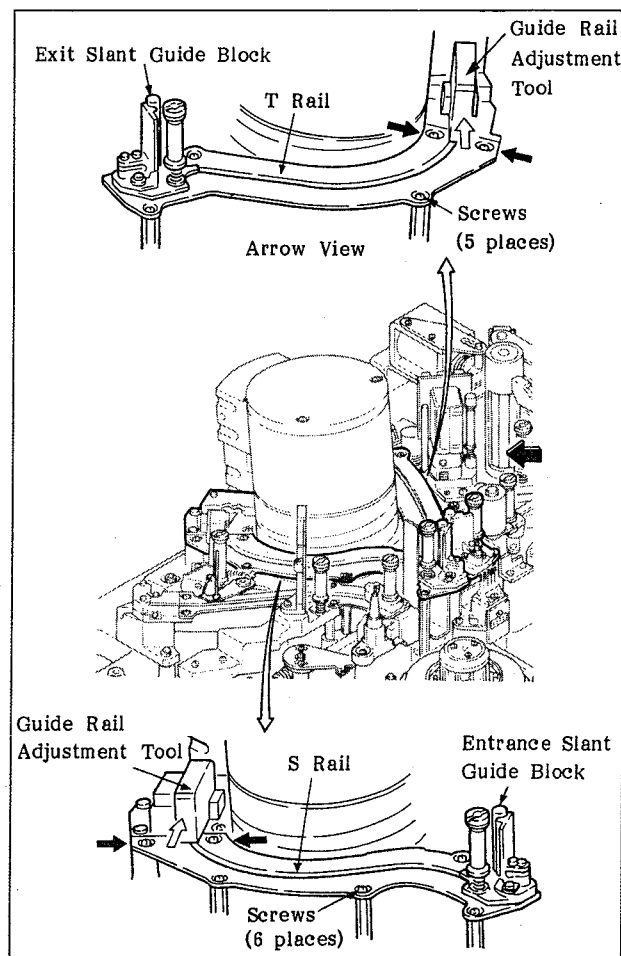

Fig. 6-62. Adjustment of the Position of the S/T Rails
- Place the guide rail adjustment tool in the position shown in Figure 6-62, and then push it in the direction of the white arrow.